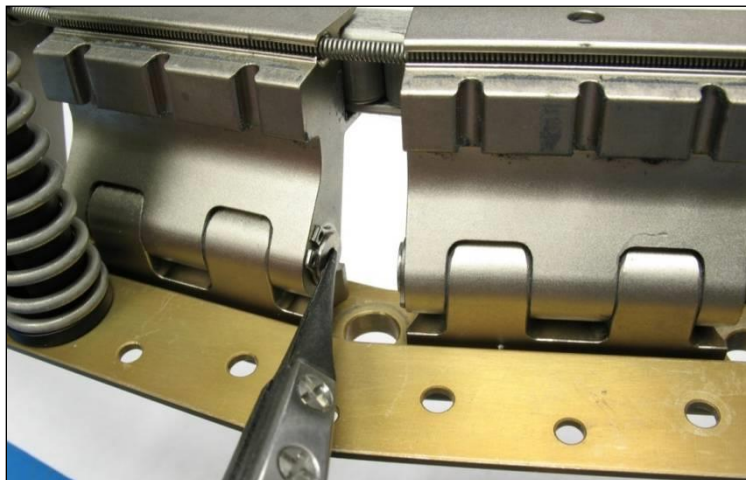

Figure 10: Pushing leaf pin to side to make room for SHC screw (15.000-24 only).
6.1.6	<p>Lower ring attachment to adjoining structure for a MLB 15.000-24 only. All other sizes skip to step 6.1.7.</p> <p>The spacing between Leaves is tight and requires a unique attachment procedure. Elevate the Lower Ring off the table to allow all fasteners to hang out the bottom. Place the washer on the Lower Ring prior to inserting the screw. If the screw head rubs, push on each adjacent Leaf Pin to move it out of the way slightly. If the adjoining structure has through holes place the Lower Ring on the structure allowing all fasteners to drop in the holes. If the adjoining structure has threaded holes the fasteners must be inserted gradually. Work around the Lightband, turning each screw a few turns at a time until hand tight. Take care to prevent the screw heads from jamming up into the Leaf Pins. Do not contact the Lightband with the wrench. See Figure 10 to Figure 13. Skip to step 6.1.8.</p> <p>See Section 14 for method of eliminating this tight fit. If using reduced head diameter SHC fasteners skip this step and adjoin Lightband to structure per step 6.1.7.</p>